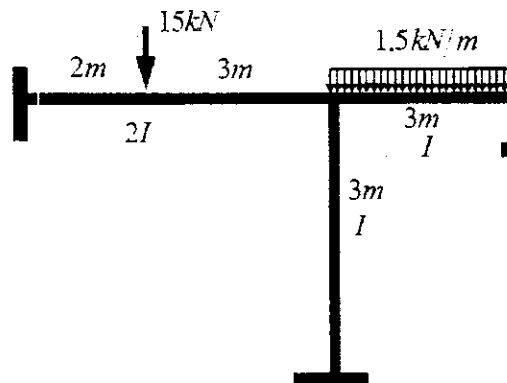

Fig. 2
| 3  | Analyse the 2D frame shown in Fig. 2, using slope deflection method. Draw BMD.   |     |
| 4 | Analyse the 2D frame shown in Fig. 2, using moment distribution method. Draw BMD.    | (15) |